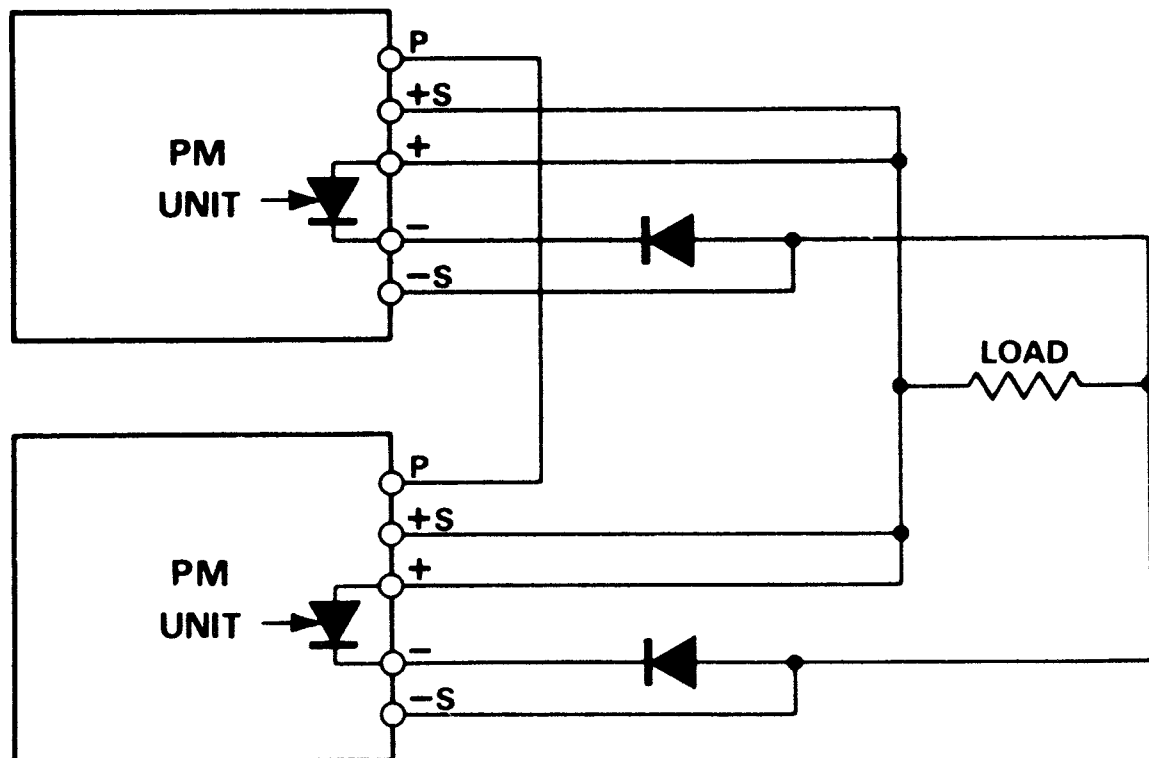

Fig. 6 Parallel Units with Overvoltage Circuits Fitted.
NOTE When units are connected in parallel the built-in thyristor of the optional overvoltage circuit in each unit must be made inoperative, because it is not possible to ensure that each thyristor will have an equal share of total current under fault condition unless connected as shown in Fig. 6. This is done by removing the gate connection of the thyristor either at the thyristor itself, or at the overvoltage PC board (terminal 3).
3.8.2. PARALLEL OPERATION WITH BUILT IN THYRISTORS MR102. Units should be connected as shown in Fig. 6 under the conditions as follows:
- (d) Link the sensing terminal as shown in Fig. 6.